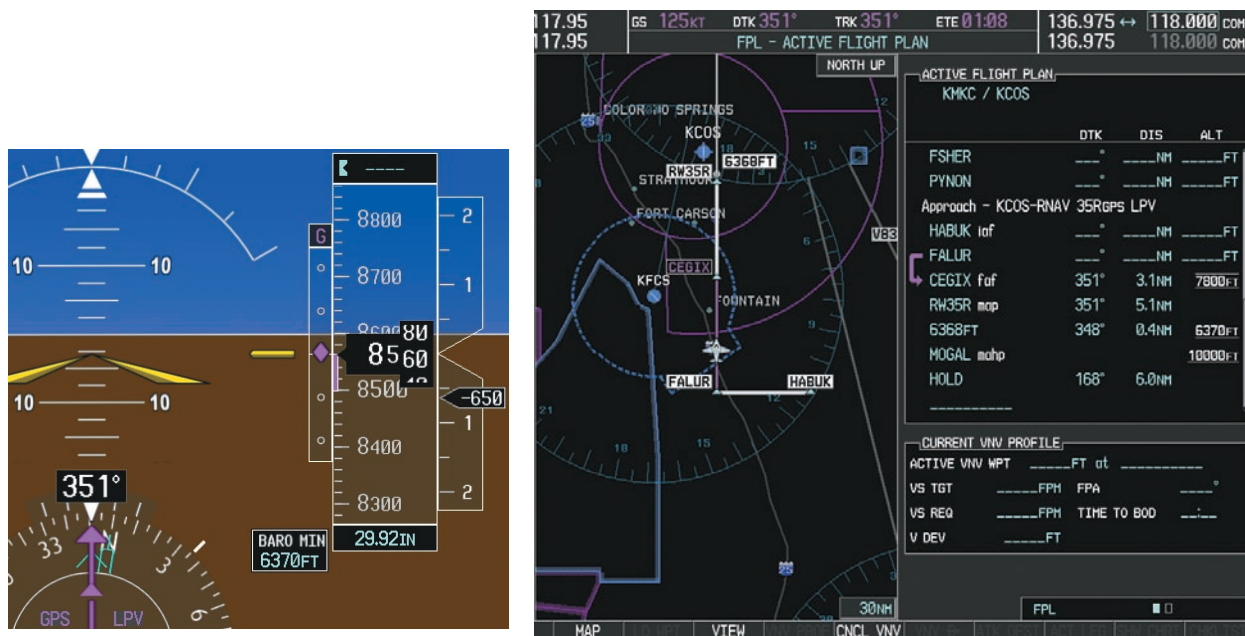

Figure 5-139 Descending to the FAF
- 23) After crossing FALUR the next waypoint is the FAF. The flight phase changes to LPV on the HSI indicating the current phase of flight is in Approach Mode and the approach type is LPV. CDI scaling changes accordingly and is used much like a localizer when flying an ILS approach. The RVSI is no longer displayed and the VDI changes to the Glidepath Indicator (as shown in Figure 5-139) when the final approach course becomes active.
The descent continues through the FAF (CEGIX) using the Glidepath Indicator, as one would use a glideslope indicator, to obtain an altitude "AT" 7,800 feet at the FAF. Note the altitude restriction lines over and under (At) the altitude in the 'ALT' field in Figure 5-139.